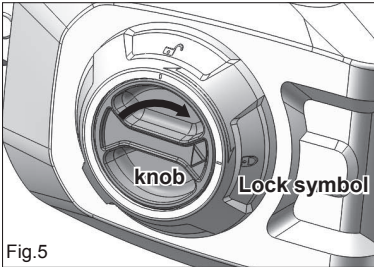
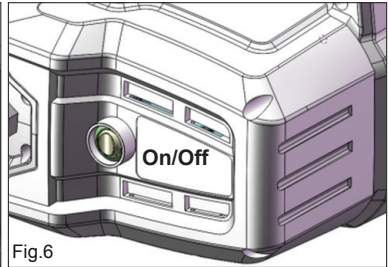

Fig.5
Fig.6
3. Turn the knob to the lock symbol  position (Fig. 5) and press the power switch (Fig. 6). Press the steering switch  to select the winding, make the indicator light up under the rope entry, push the safety switch the end, and then press the trigger to start the traction tool (Fig. 7). Noted that the maximum pulling force provided by the traction tool is 1000 pounds (454 kilograms), and the horizontal traction distance is less than 5 meters. When the pull force exceeds 1000 pounds (454 kilograms), the traction tool will be protected by the controller shutdown. At this time, reduce the loading weight and the traction tool can be restarted after power failure.